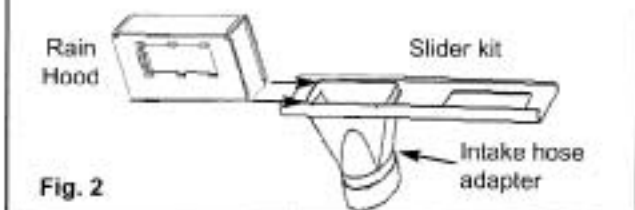

Fig. 2
2) Slide the Rain Hood flanges onto the edges of the slider kit until it is lined up with the intake vent (shown in Fig. 2).